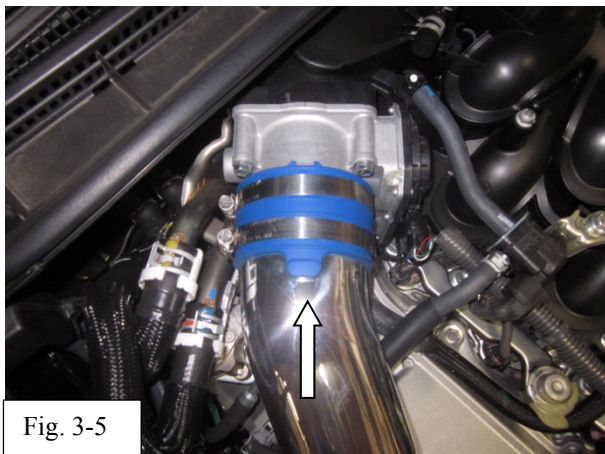

Fig. 3-5
- (e) Insert the F-Sport Intake Tube into the Coupler. **Do not tighten the hose clamp at this time** (Fig. 3-5).